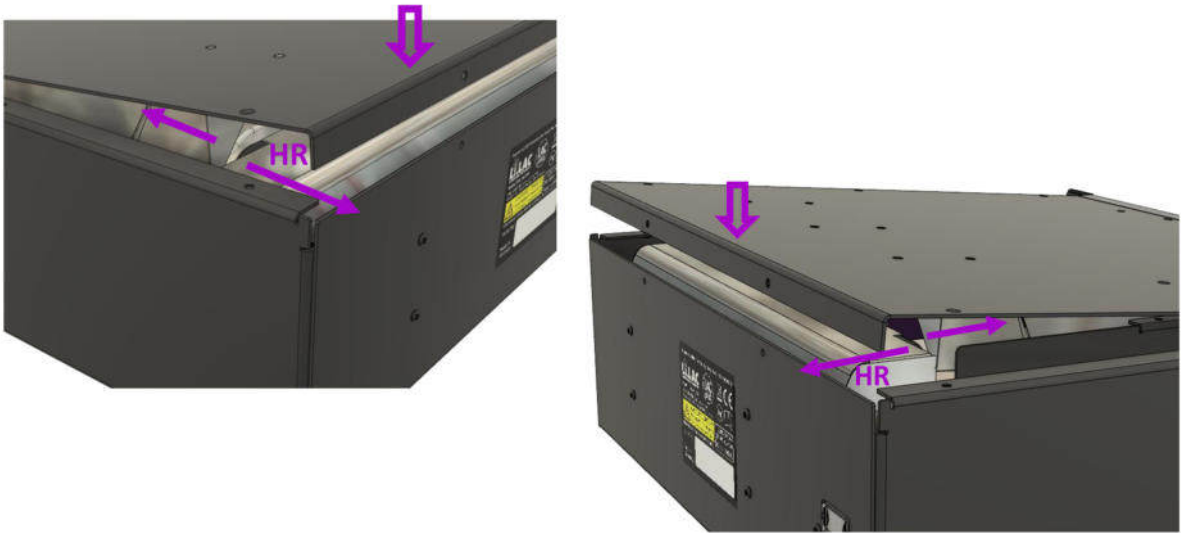

Fig. 23
4. Pull the main reflector **HR** on both left and right sides towards the rear of the housing using a hook tool. Slide the upper housing lid towards the front of the housing and gently push it downwards. (Fig. 23)